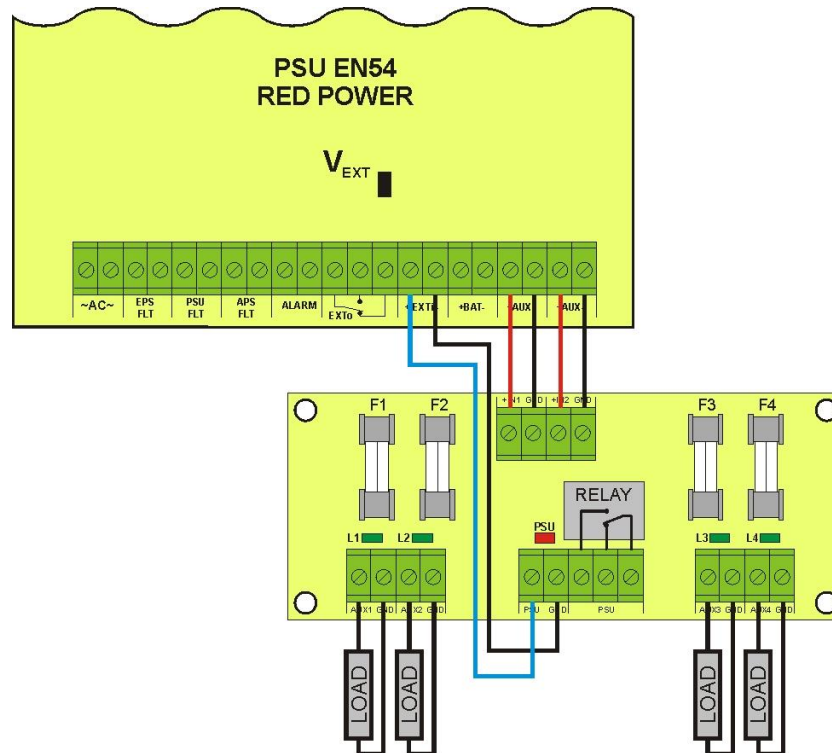

Fig.14. The connection of fuse module
- switching PSU relay output into voltage free status (contacts as shown in the Fig.14).